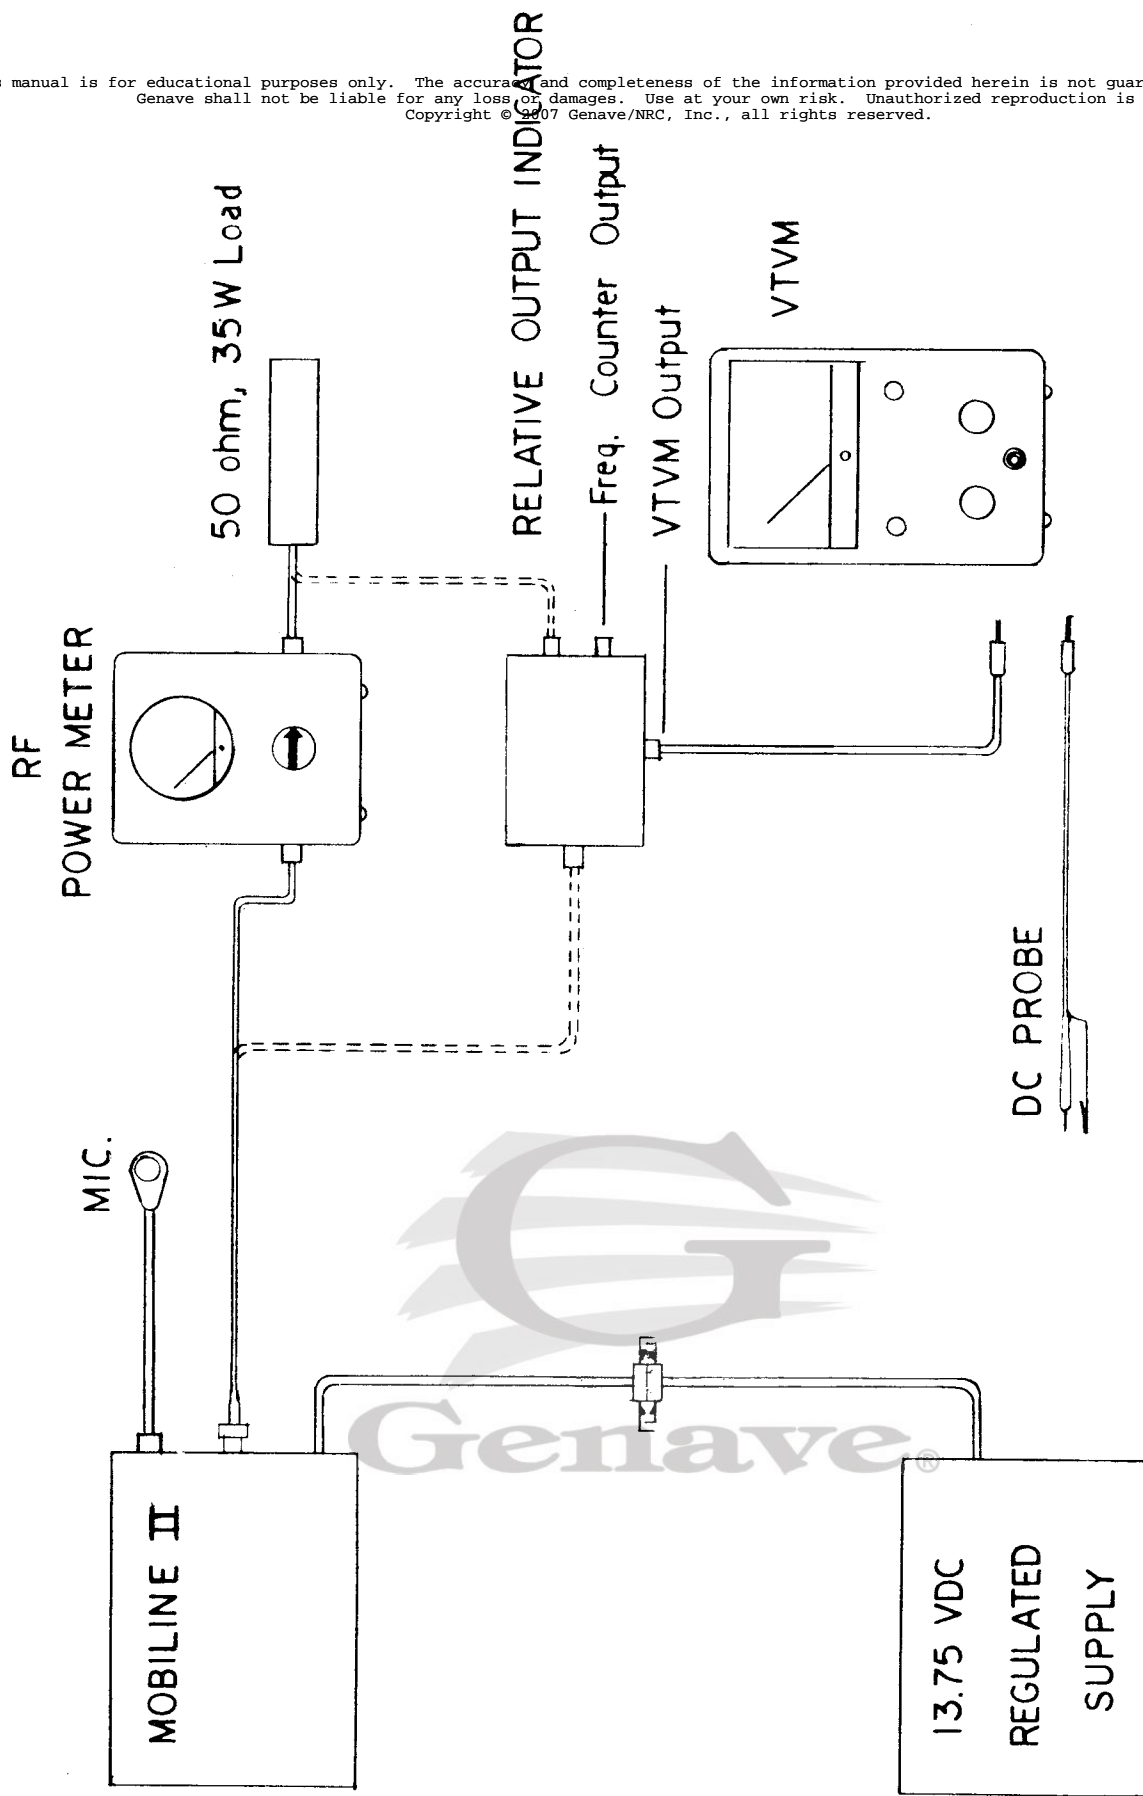

Figure 4-4-5
4. Connect the unit to the Power Measurement Setup shown in Figure 4-4-5.